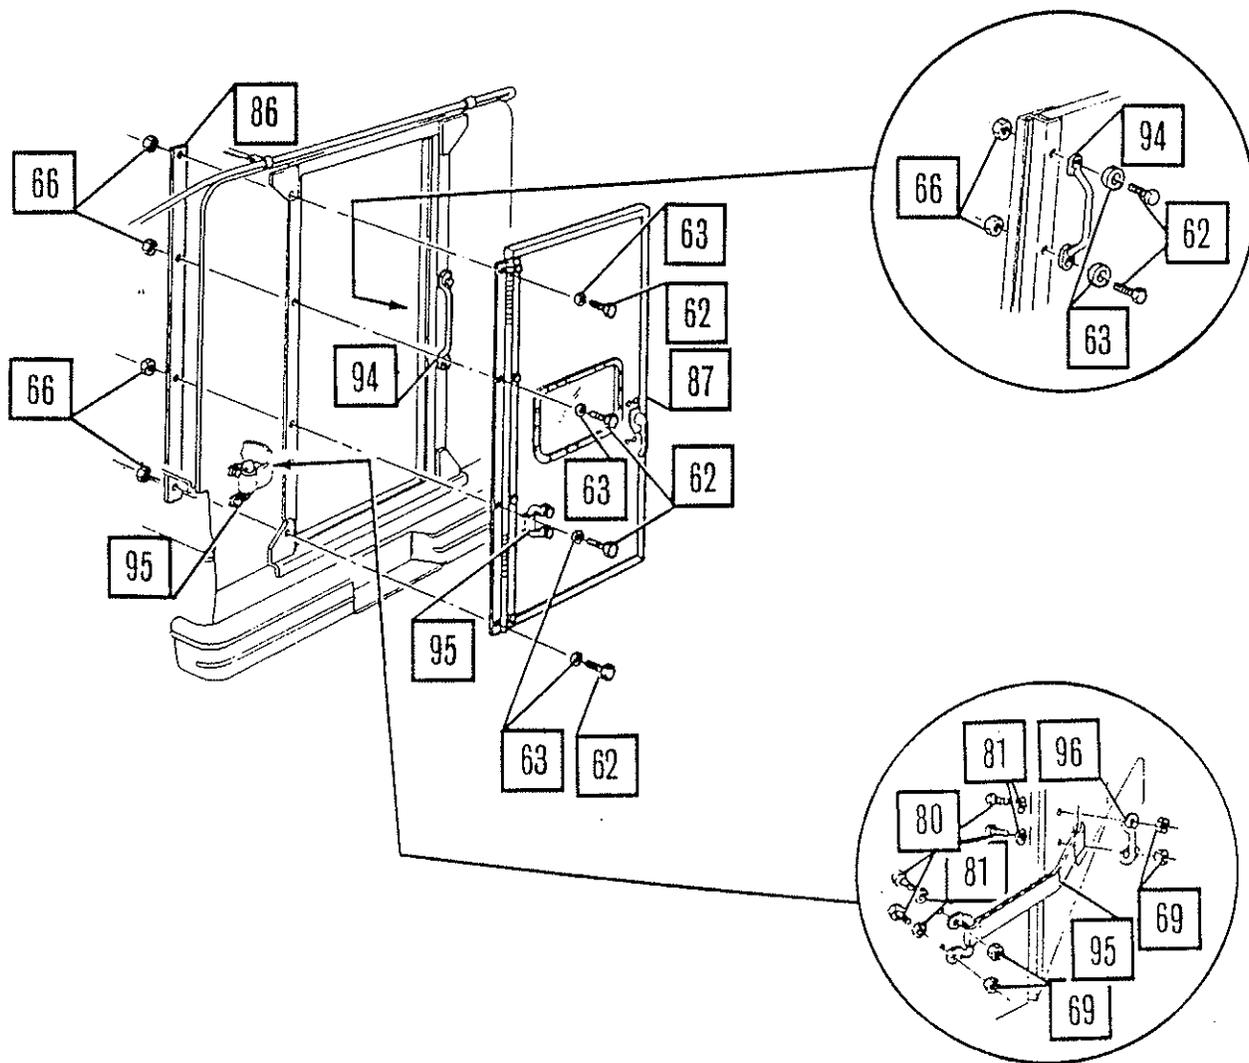

Figure 24.
81. Install door and inner side molding in door frame molding with bolts, washers and nuts (Figure 24.). Tighten bolts to 22-30 lb.-ft. (30-40 Nm).
82. Install strap assembly to side panel and door with rear door check brackets, nuts, bolts and washers (Figure 24.). Tighten bolts to 50-65 lb.-in. (6.0-8.0 Nm).
83. Install assist handle to right side of door opening with nuts, washers and bolts (Figure 24.). Tighten bolts to 22-30 lb.-ft. (30.0-40.0 Nm).